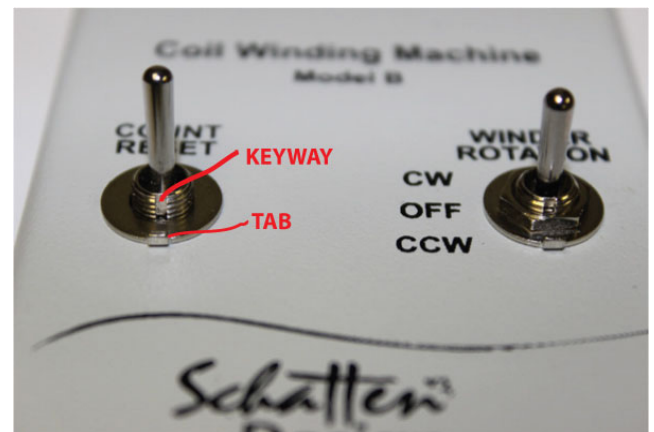

Fig 4
- 4) Note that the toggle switches have a slot or keyway down their threaded surface (Fig 4). Install a small tabbed flat washer (tabs should face away from the surface of the cover) and a nut on the toggle switches and using a 10mm socket or wrench tighten the nuts to mount the circuit board.